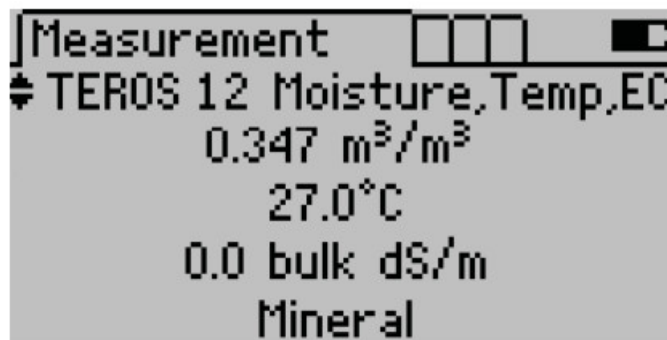

Figure 4 Measurement screen with the desired sensor
2. Use **UP** and **DOWN** to scroll through the sensor list until the correct sensor type appears in the Measurement tab (**Figure 4**).